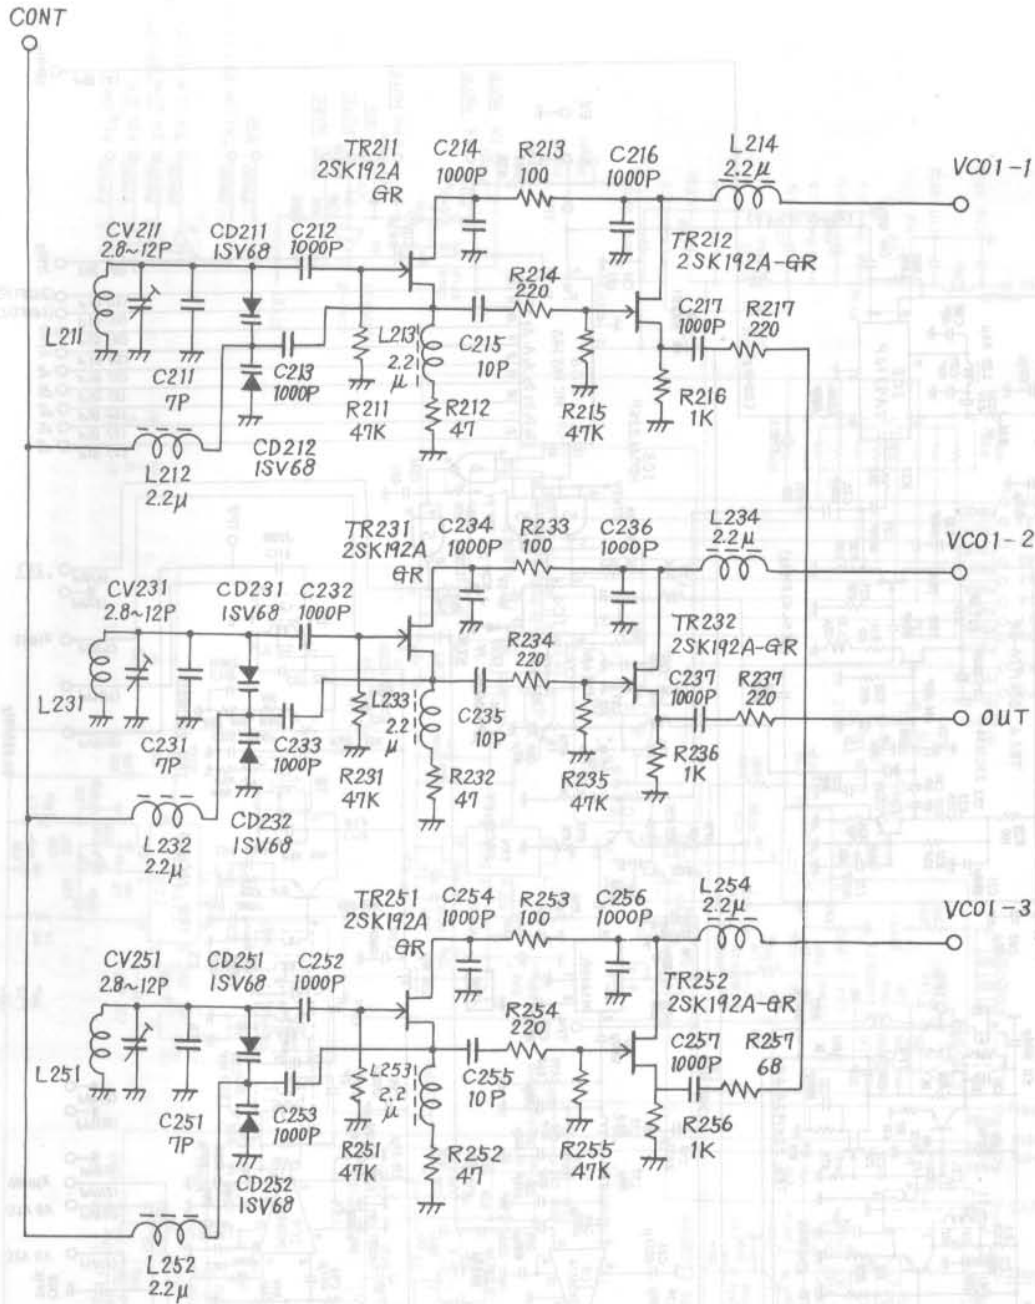

FIGURE 7.10 CGA-94 LOOP 1 UNIT CIRCUIT DIAGRAM (2/2)
- FIGURE 7.10 CGA-94 LOOP 1 UNIT CIRCUIT DIAGRAM (2/2)